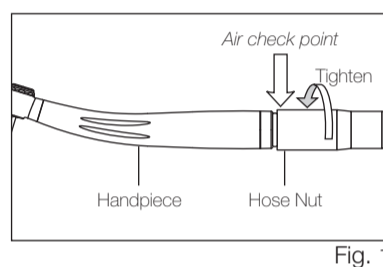
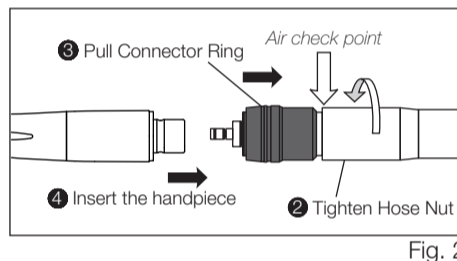

Fig. 1
Fig. 2
- 2) Tighten the Hose Nut. (Fig. 1)
- 1) Slide back the Connector Ring as shown in Fig. 2.
Set the Air pressure at the arrowed point on Fig. 1 and Fig. 2. The setting values are on the specification table. Do not exceed the recommended air pressure.